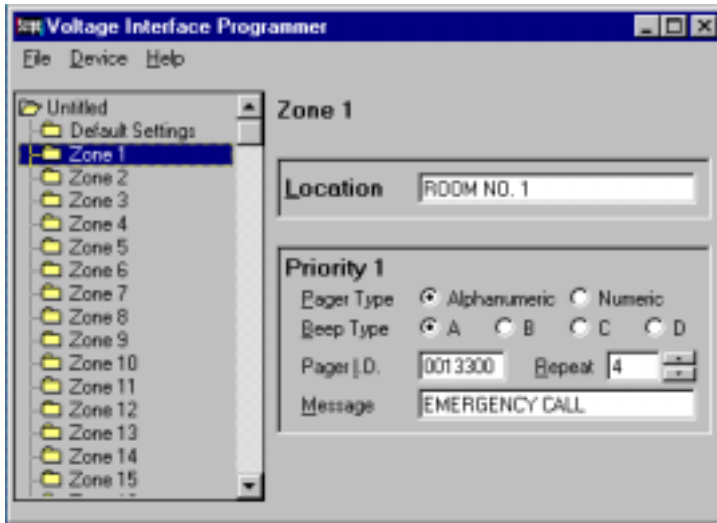

Figure 6
- f. Edit each zone to add Pager ID if different, and any corrected messages. (see figure 6)
Both VSP units can be configured to operate with a nurse call system using **ZERO** to **POSITIVE** pulsing. However at the present time in this configuration you will not have a [REPEAT] function on the Room Call or Standard. When voltage above a positive 12 volts is present would indicate a room call, PRIORITY 3, when the voltage dropped below 12 volts it would be in a reset condition. With this configuration the location of the message text is different. See figure 6 and 7.